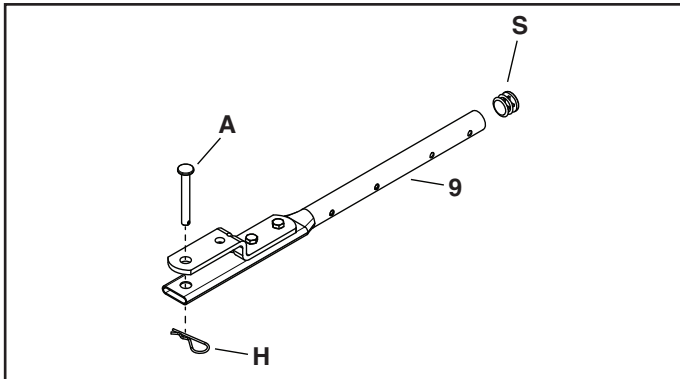

FIGURE 1
STEP 1: (SEE FIGURE 1)
- Insert a plug (S) into the end of the hitch tube (9).
- Install the hitch pin (A) in the hitch bracket and hitch tube and secure it with the hairpin cotter (H).